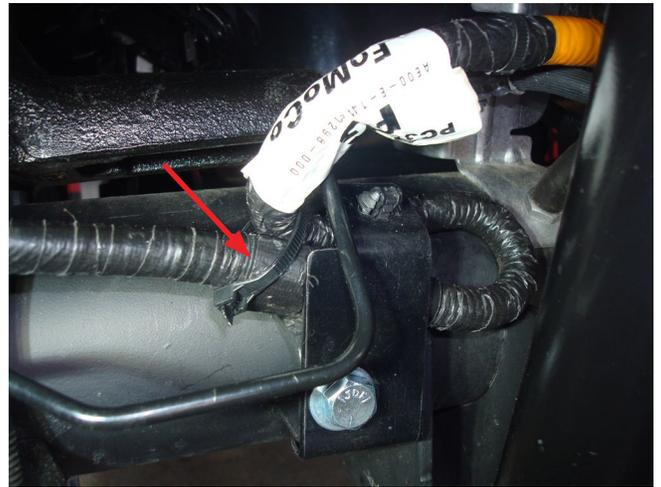
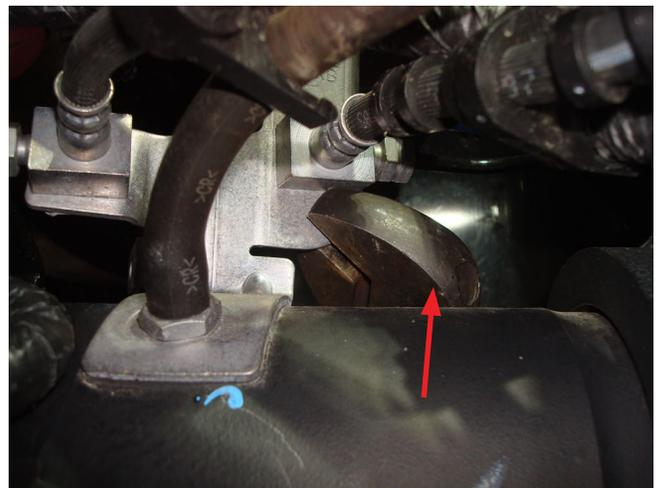

Fig. 20
Fig. 21
2. Pull the left wiring harness down and attach the harness mount (M) (Fig. 20). Then attach the ABS/Brake junction bracket to the exiting bracket on the axle with the 3/8" hex cap screw (Q), flat washer (R) and serrated flange lock nut (U) (Fig. 21). Torque to 31 lb.-ft. (42Nm).